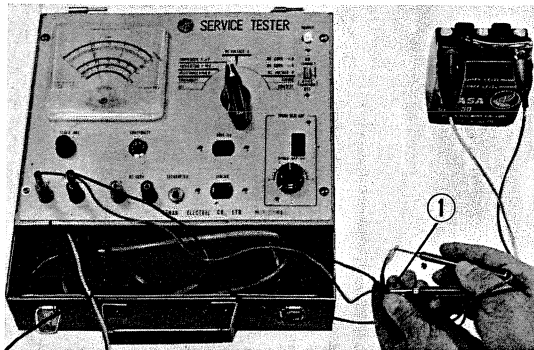

Fig. 158 Condenser test
- ⑤ Connect the red tester high tension cord to the high tension cord of the ignition coil.
- ⑥ Turn the selector knob to the COIL TEST position.
- ⑦ Adjust the three point spark tester to maintain maximum distance of spark by turning the control knob while observing the spark condition and then measure the spark distance.
- ⑧ If the spark plug distance is less than 6 mm (0.24 in.), the spark plug is un-serviceable.
2) Condenser test (Fig. 158)